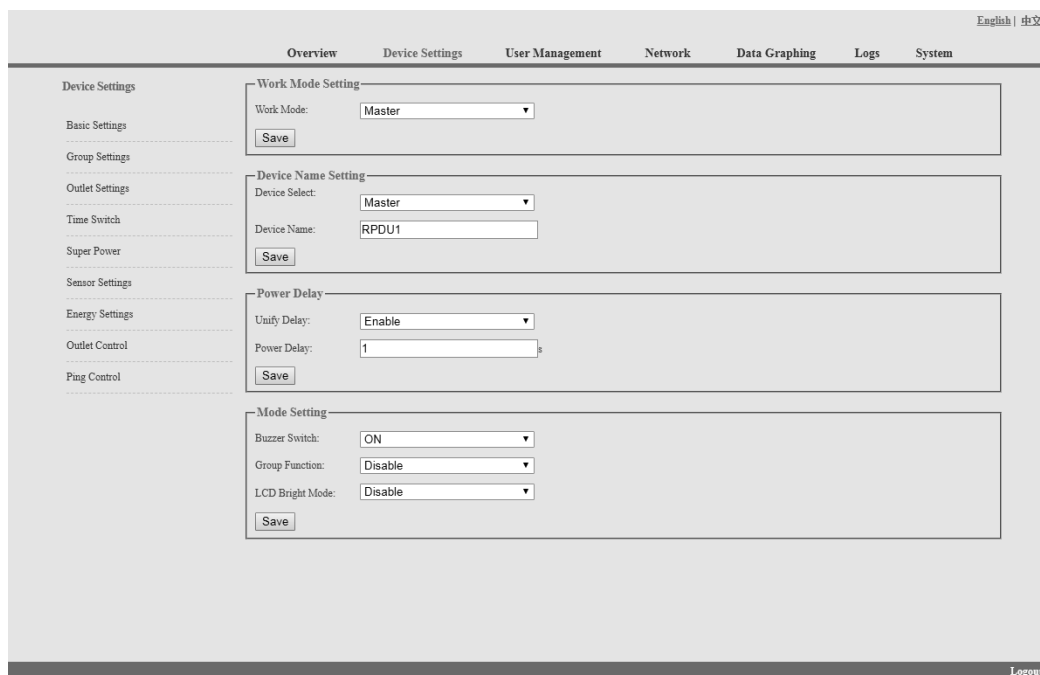

Figure 1-3
3.2.1.2. Device Management: Click Device Management from menu to do basic configuration of the device like Figure 1-3